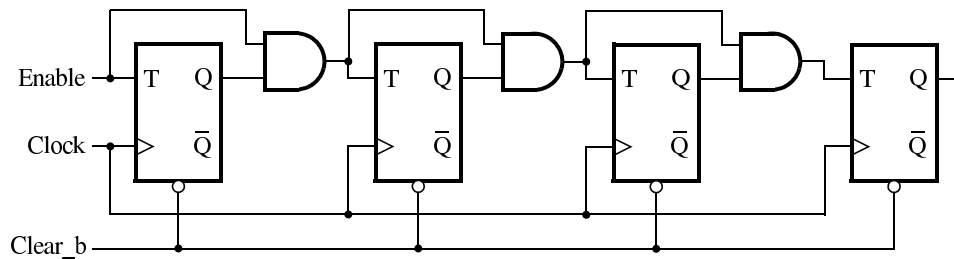

Figure 1: A 4-bit counter.
Consider the circuit in Figure 1. It is a 4-bit synchronous counter (text Section 5.9.2) that uses four T-type flip-flops (text Section 5.5). The counter increments its value on each positive edge of the clock if the *Enable* signal is asserted. The counter is reset to 0 by setting the *Clear\_b* signal low – it is an active-low asynchronous clear. You are to implement an 8-bit counter of this type.
1. Draw the schematic for an 8-bit counter using the same structure as shown in Figure 1.
7. Use the Quartus RTL Viewer to see how the Quartus software synthesized your circuit. What are the differences in comparison with Figure 1?